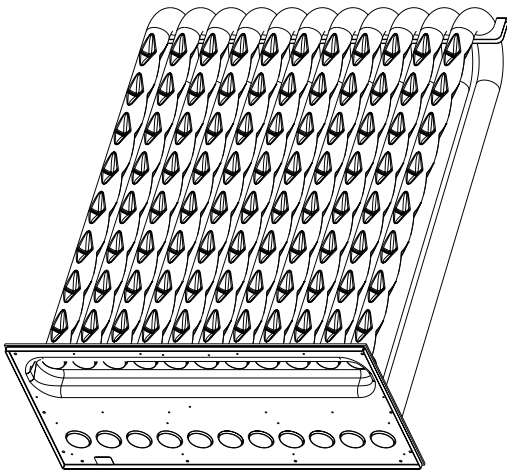

FIGURE 7
Tri-Dimple Heat Exchangers (figure 7)
- 1 - Install bracket in unit (bracket is provided in some units). Secure with provided hardware. See figure 7.